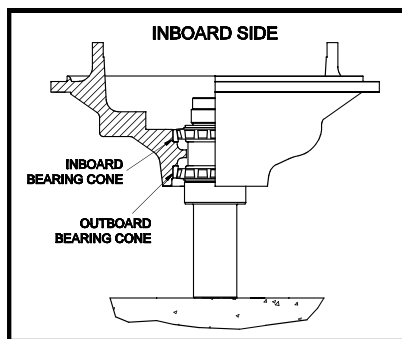

Figure 6.3.4.5—Placing Inboard Bearing Cone onto Shaft
**NOTE:** DO NOT push on bearing rollers or bearing cage; reference Figure 6.3.4.2.